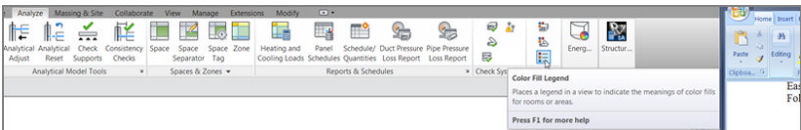

FIGURE 15.17: Clicking the Color Fill Legend button
- 6. On the Analyze tab, click the Color Fill Legend button, as shown in Figure 15.17.